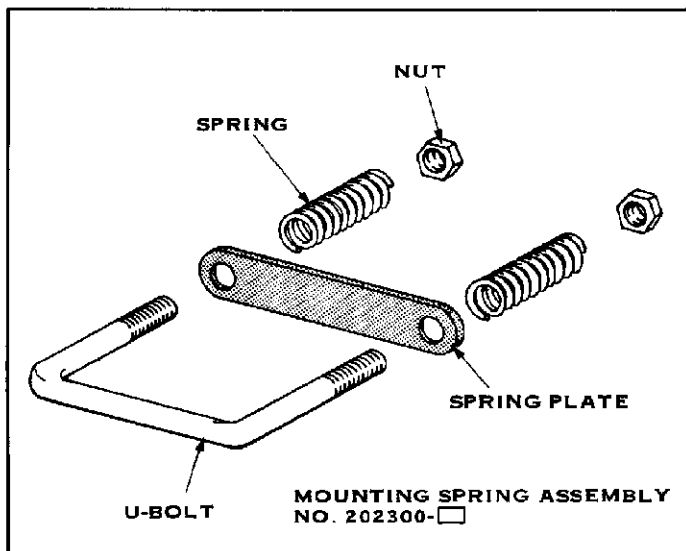

FIGURE 6
E. Mounting Springs (Figure 6)